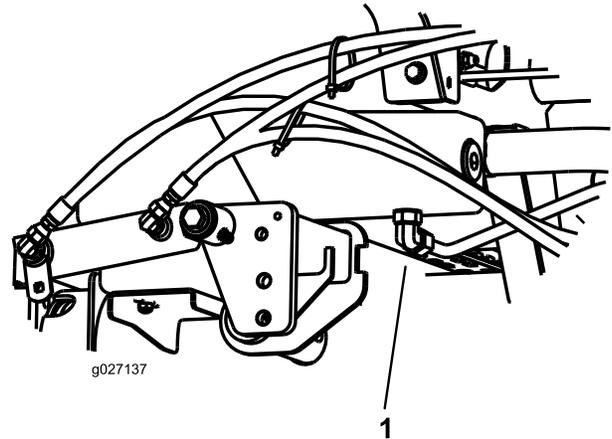

Figure 71
2. Place a large drain pan under the fitting secured to the bottom of the hydraulic fluid reservoir (Figure 71).